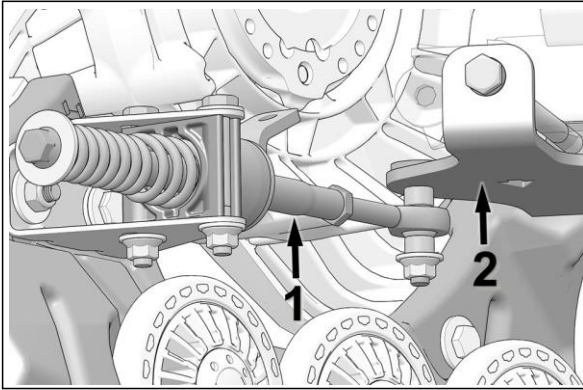

Figure 13
- Stabilizing arm (1) must be attached to the rear anchor bracket (2) installed on the vehicle. See Figure 13.